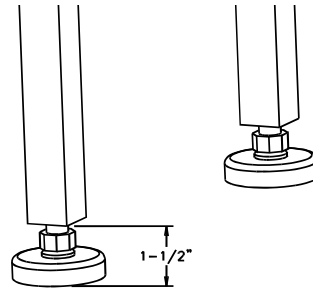

Figure 2-17. Hand-feed Leveling Pads
2. Make sure the hand-feed conveyor's leveling pads are set at 1-1/2" as shown in Figure 2-17.